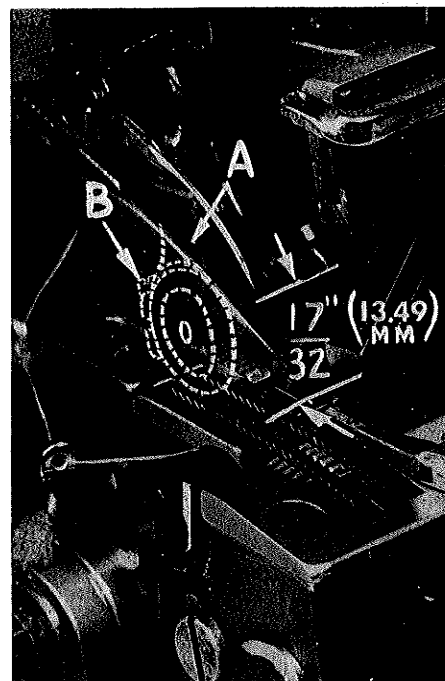

Fig. 4
With throat plate assembled in position, needle should center in the front end of needle slot. When needle is at high position, needle point should be set  $17/32$  inch (13.49 mm) above throat plate (Fig. 4), for Styles 39500 QG, RN and SD. This dimension should be  $1/2$  inch (12.70 mm) for Style 39500 TC. To align needle or set the height above throat plate, move needle driving arm (A, Fig. 4) by loosening clamp screw (B). Remove throat plate, after needle has been set properly and clamp screw (B) has been tightened.